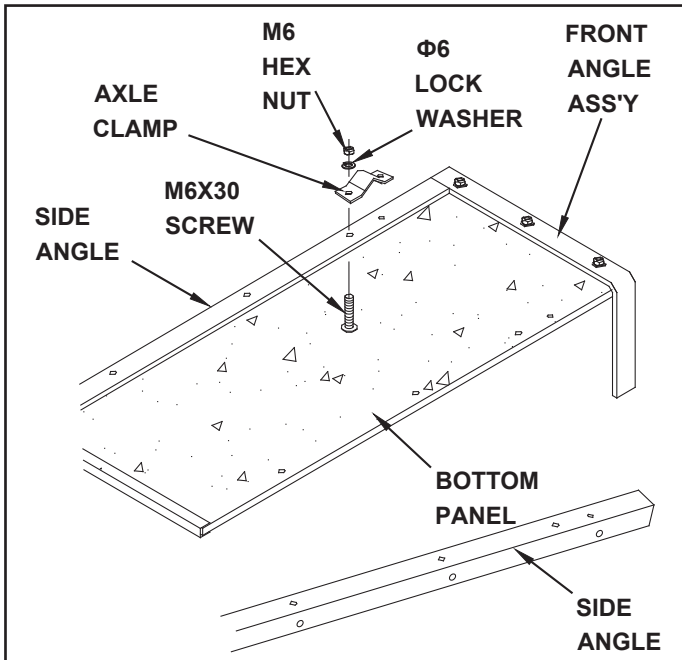

FIGURE 3
- Turn the front angle assembly and bottom panel upside down as shown in figure 3.
- Lay the two side angles on the bottom panel so that the two holes for the axle clamps are closer to the front angle assembly. See figure 3.
- Secure both axle clamps to the side angles and the bottom panel using four M6 x 30 screws, lock washers and hex nuts. **Make only finger tight** until axle is assembled. See figure 3.